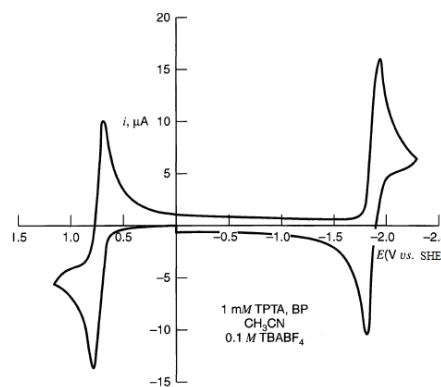

Figure 4
6.d. Figure 4 shows a CV taken for a solution containing benzophenone (BP) and tri-*p*-tolylamine (TPTA), both at 1 mM in acetonitrile. Benzophenone can be reduced inside the working range of acetonitrile and TPTA can be oxidized. However, BP can't be oxidized, and TPTA can't be reduced. The scan shown here begins at 0.0 V vs. SHE and first moves toward positive potentials. (i) Assign the voltammetric features between +0.5 and 1.0 V and between -1.5 and -2.0 V to appropriate electrode reactions and identify the onset potential for BP reduction and TPTA oxidation. [3+1]